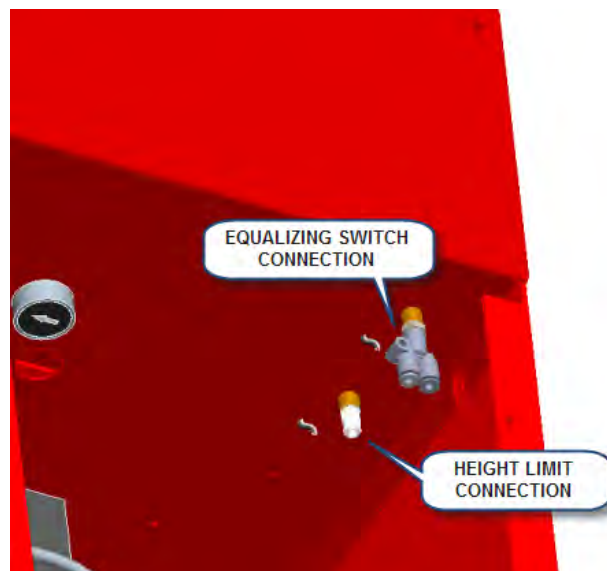

Figure 13 – Pneumatic Switch Return Line Connections (Console)
2. Route two blue Ø4mm air lines labeled with “EQ RETURN” from left side and right side baseframe to console and connect them to a union ‘Y’ fitting in the console (**Figure 13**).
3. Route one blue Ø4mm air lines labeled with “LMT RETURN” from left side baseframe to console and connect to the pressure switch fitting in the console (**Figure 13**).